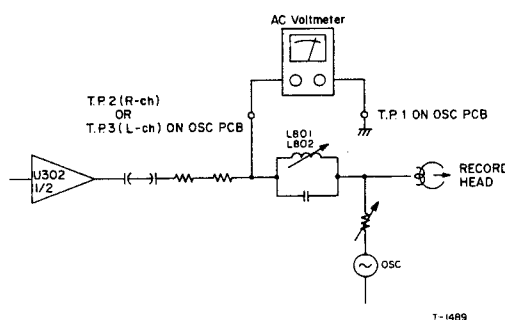

Fig. 6-10 Bias trap adjustment setup
3. Adjust L801/L802 for a minimum reading between the T.P.2 (for R-ch) or T.P.3 (for L-ch) and T.P.1 on the OSC PCB ass'y See Fig. 6-10.